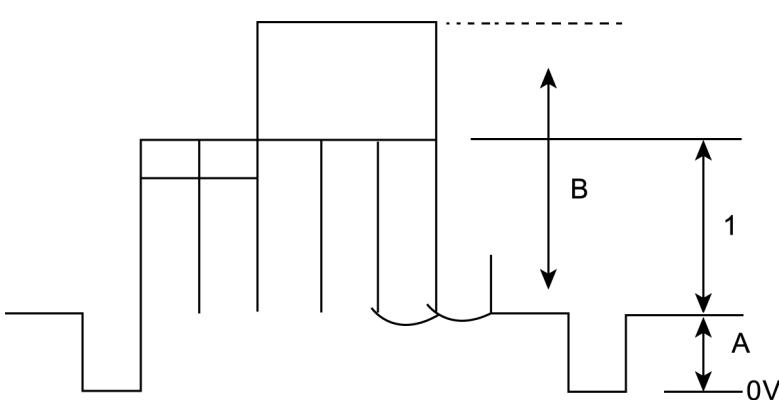

Fig. 4
5. Set (A) to  $0.3 \pm 0.1V$  by BRT (CHK2) at measurement point TPL 2 Fig. 4.
1. Connect oscilloscope probe to TPL 7 (G OUT) with  $10k\Omega$  series resistor and adjust Contrast so that (B) as in Fig. 4 is  $1.85 \pm 0.2V$ .
2. Adjust "Sub Colour" so that waveform as in Fig. 4 (1)  $2.5 \pm 0.1V$ .